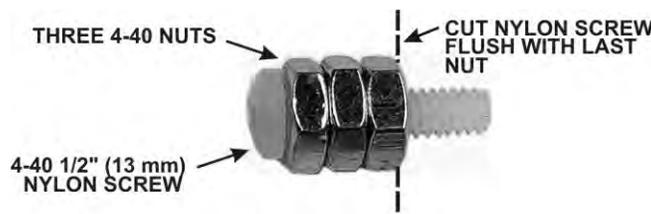
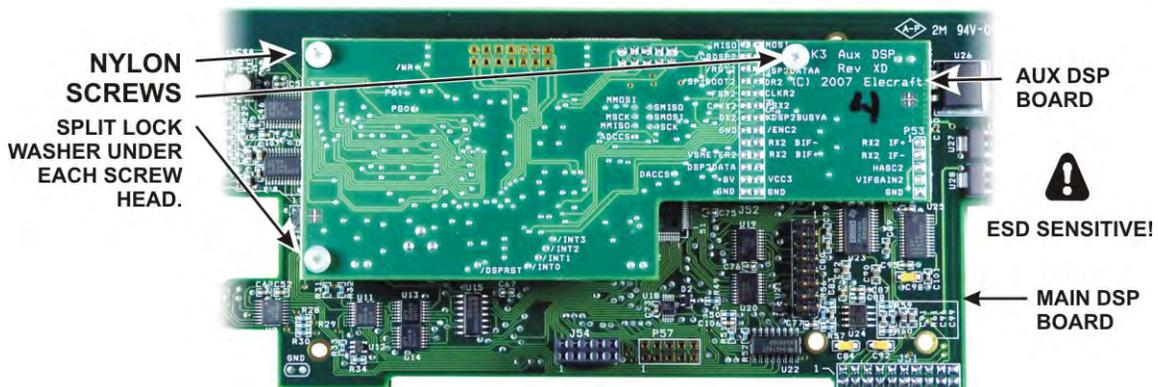

Figure 51. Preparing the Nylon Screw.
Figure 53. Mating the Main and Auxiliary DSP Boards.
- Screw three 4-40 nuts onto the 1/2" (13 mm) 4-40 nylon screw as shown in Figure 51.
□ Plug the aux DSP board into the main DSP board by mating P52 and P53 on the aux DSP board (at the narrow end) with J52 and J53 on the main DSP board. When fully seated, the connectors should be fully engaged so that the pins do not show and the aux DSP board should rest against the top of the standoffs with the holes in the board aligned for the screws (See Figure 53). Note that a two-row 10-pin connector at the top of the aux DSP board does not mate with anything on the main DSP board. That is normal. Attach the boards with three 4-40 1/4" (6.4 mm) *nylon* screws or the nylon screws you trimmed to length earlier (see Figure 51). Place a split lock washer under each screw head. Do not place washers between the standoff and the pc board. *Be careful tightening the nylon screws. They are easily stripped!*